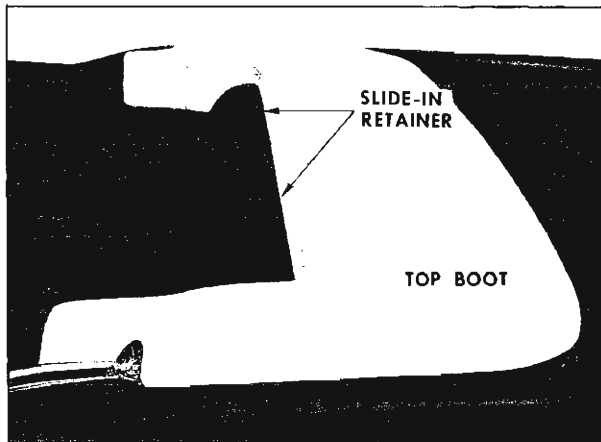

Fig. 21-1 Top Boot
The top boot is attached to the body with concealed "floating-type" snap fasteners along the side and rear edges and a "slide-in" retainer along the front edge as indicated in Fig. 21-1. When the folding top is raised, either of the following two methods may be used for storing the boot.
3. Engage remaining boot fasteners to studs on molding and rear quarter trim (Fig. 21-1).